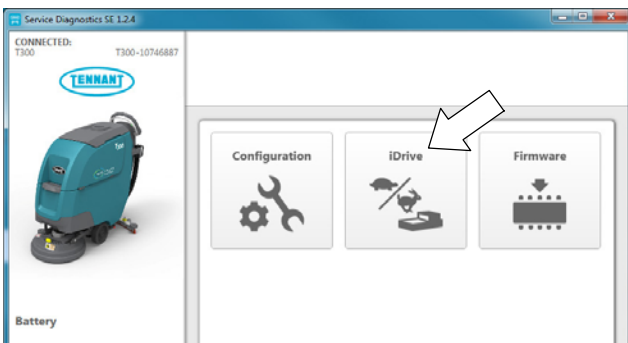

Fig. 6
- Click the "iDrive" button to enter the programming screen (Figure 6).